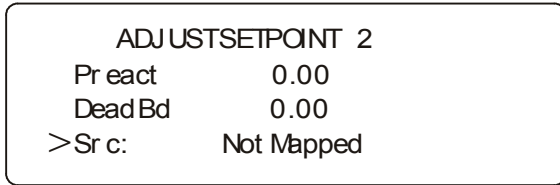

FIG. 3-16 ADJUST SETPOINT MENU/SRC: NOT MAPPED
- Step 14. Press the down arrow button until the cursor is in front of Src: (Source) (See Fig. 3-16)